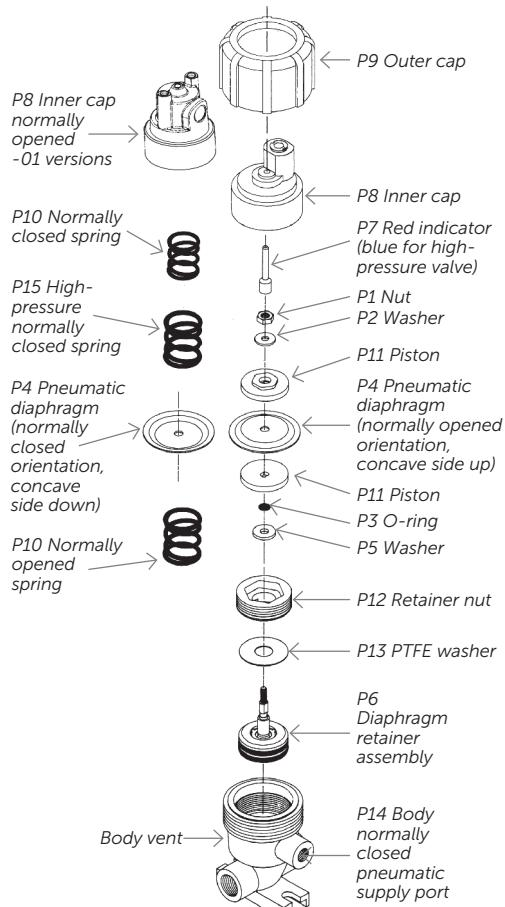

Figure 1
- Refer to Figure 1 and begin disassembly by first holding the inner cap (P8) on the flat sections of the pneumatic supply port with an adjustable wrench (S5,) while turning the outer cap (P9) in a counterclockwise direction with the outer cap wrench (T1).
13. Put lower piston (P11) in place. Orient the raised hexagonal surfaces facing away from the pneumatic diaphragm (see Figure 1).
14. On normally closed valves, place the pneumatic diaphragm (P4) onto the diaphragm stem with the concave side facing up (see Figure 1). On normally opened valves, place the pneumatic diaphragm (P4) onto the diaphragm stem with the concave side facing down (see Figure 1).
15. Put upper piston (P11) in place. Orient the raised hexagonal surfaces facing away from the pneumatic diaphragm (see Figure 1).